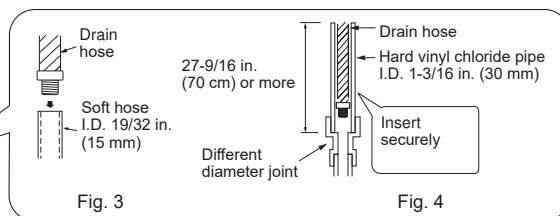

Fig. 3
- 7) Process the end of ground wire (Fig. 3). Connect it to the ground terminal of electrical parts box.
- 8) Process the end of indoor/outdoor unit connecting wire (A) (Fig. 3). Attach it to the terminal block. Be careful not to make mis-wiring. Attach the wire to the terminal block securely so that its core cannot be seen, and no external force affects the connecting section of the terminal block.
- Put the drain cap into the section to which the drain hose is to be attached at the rear of the indoor unit. (Fig. 3)
- If the drain hose provided with the indoor unit is too short, connect it with a field-supplied drain hose (1). (Fig. 3)
- 2) Remove all burrs from the cut section of the pipe, ensuring that precautions are taken to avoid getting metal shavings into the piping. (Fig. 3)